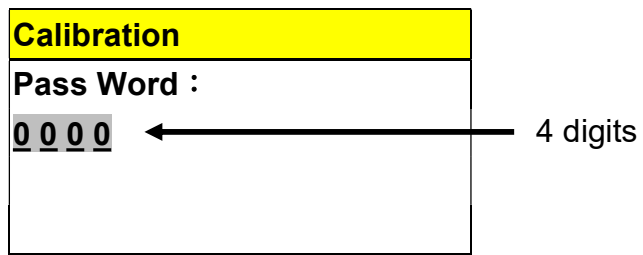

Figure 155
B. Press  button to the editing mode as shown in Figure 155.